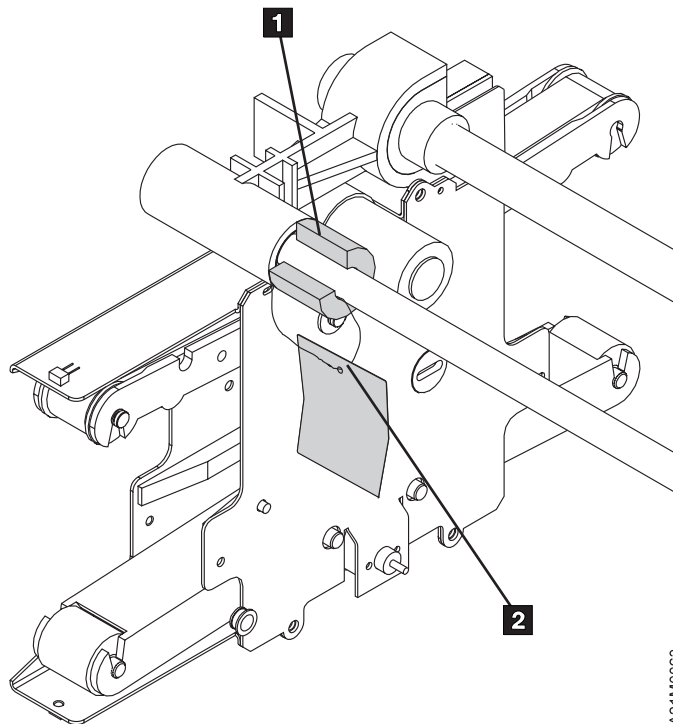

Figure 50. Orange Picker Stopper
- ___ Step 5. Before turning on power, the orange stopper (see **1** in Figure 50) must be removed from the unit. The stopper is pressed on the rail to prevent the picker from moving during shipping. Do the following to remove the stopper: